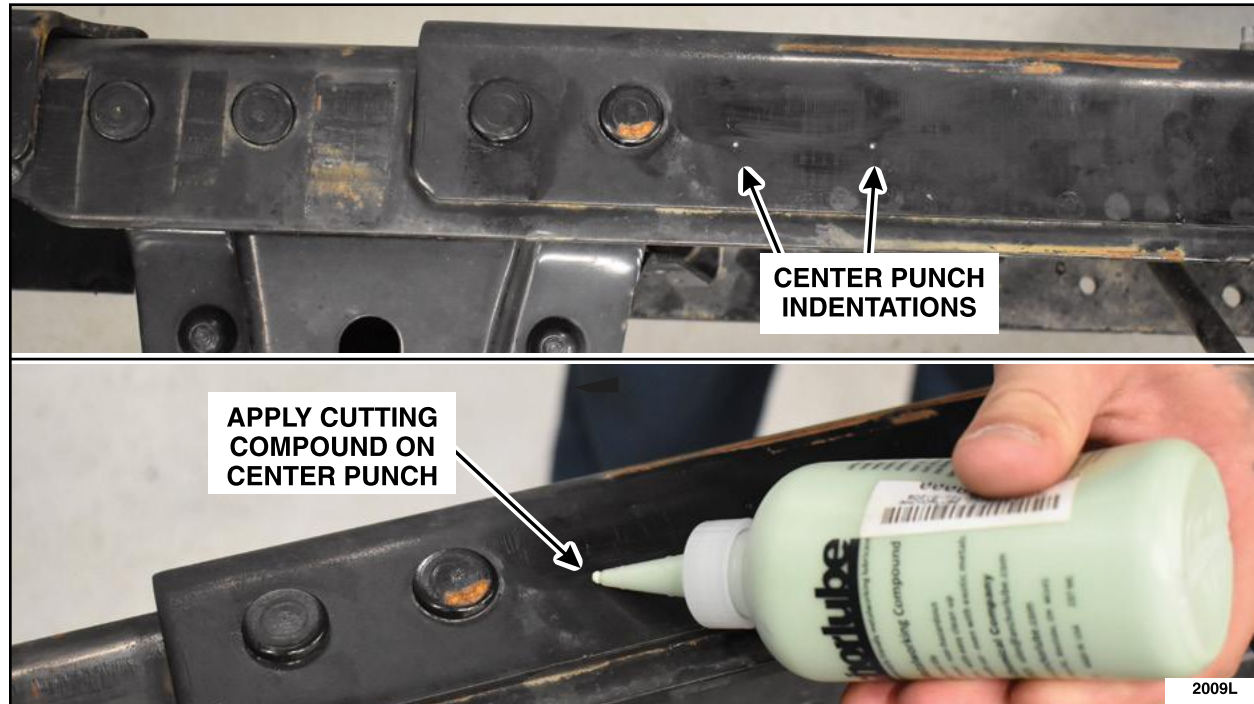

FIGURE 6
6. Remove the template from the frame and apply a bead of Anchorlube G771 or equivalent. See Figure 6.